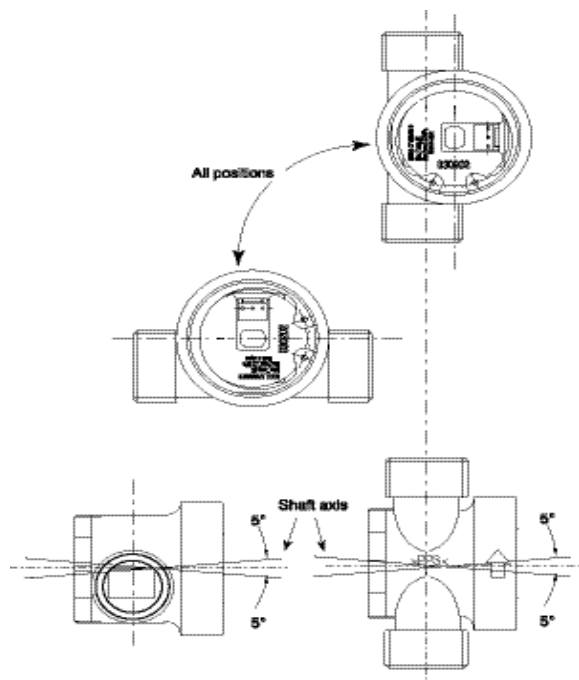

Fig. 4. Mounting positions C7195A2
- The shaft of the rotor shall be horizontal or vertical $\pm 5^\circ$. See fig. 4.